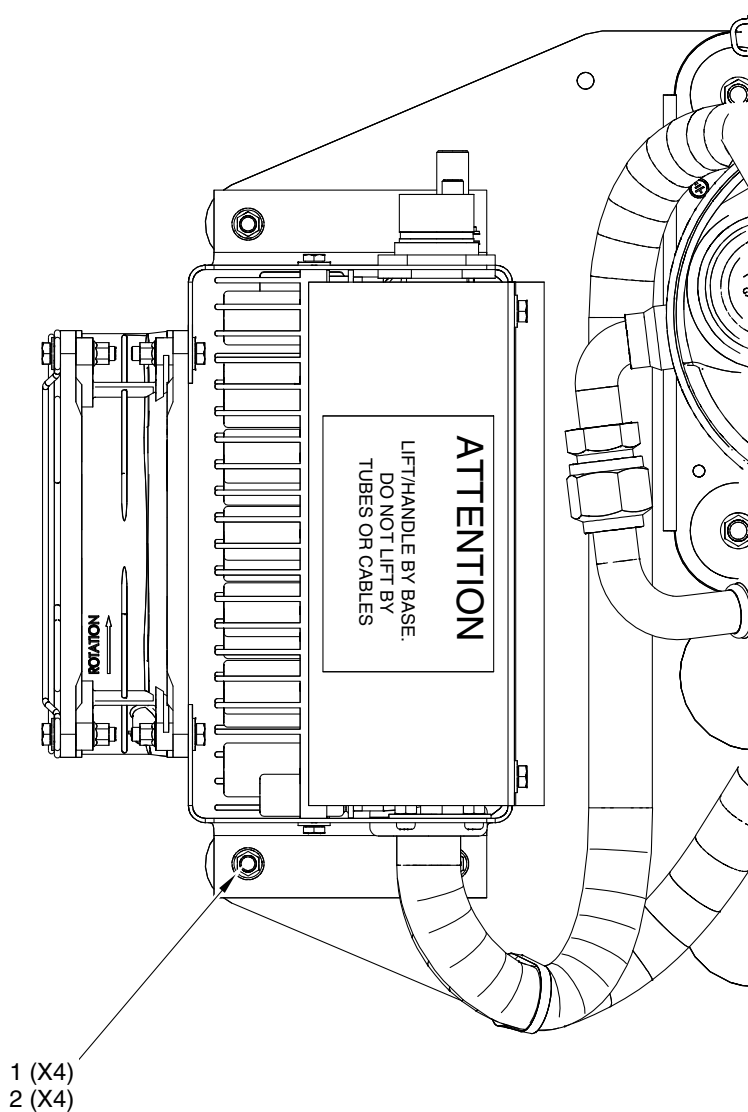

Figure 2
- (7) To aid in removing and accessing the compressor primary power interface slide connectors in the controller, it is permissible to loosen and remove the four nylon lock nuts, P/N MS21044N3 (1, Figure 2) and flat washers, P/N NAS1149F0332P (2, Figure 2) securing the controller to the ITPCA base plate. Retain the four lock nuts and the four flat washers for reinstallation.
- (18) While rerouting the cables back to each compressor, resecure the controller assembly to the four mounting studs with the four lock nuts, P/N MS21044N3 (1, Figure 2) and four flat washers, P/N NAS1149F00332P (2, Figure 2) removed earlier. Torque lock nuts to 19 in-lbs plus drag torque.